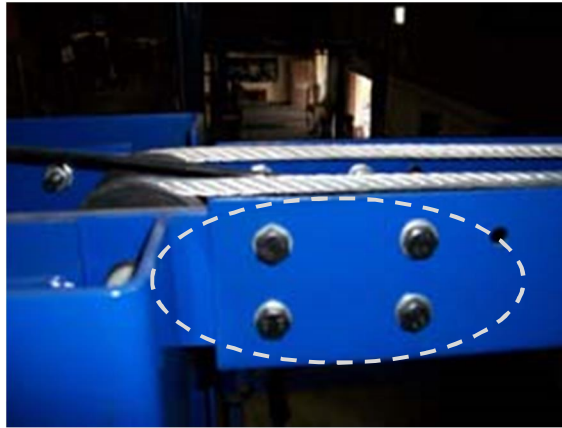

Fig. 4
- B. Install the overhead beam to the connection plates on each end with 8ea nuts & bolts, as shown below in Fig.4.